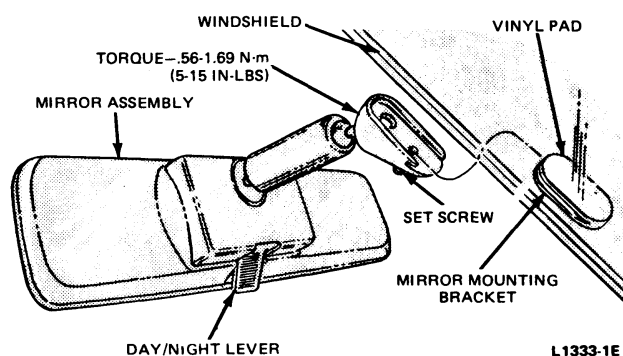

FIG. 1 Inside Rear View Mirror Installation
1. Loosen the mirror assembly-to-mounting bracket set screw (Fig. 1).
1. Locate and mark the mirror mounting bracket location on the outside surface of the windshield with a wax pencil (Fig. 1).